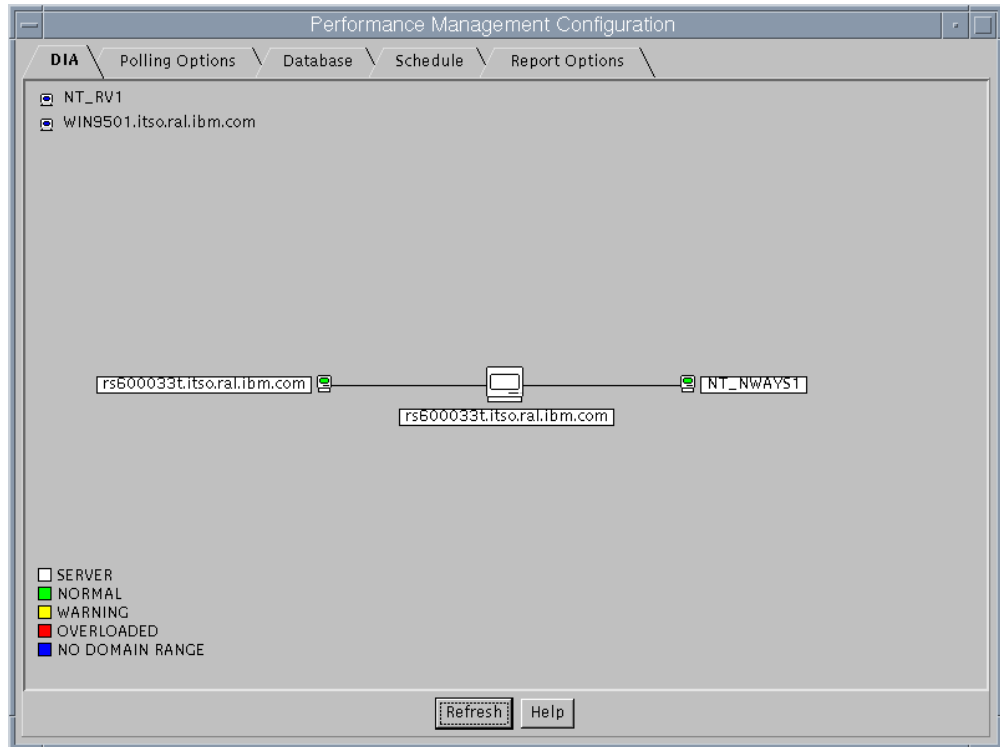

Figure 203. DIA Topology after Configuration
- Click **OK** when finished, Figure 203 will appear.